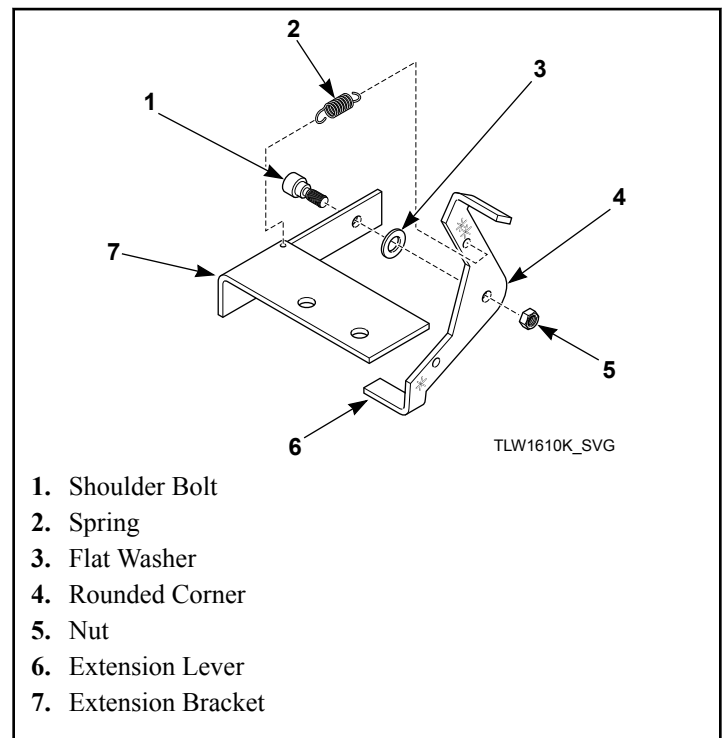

Figure 18
3. Install extension lever with rounded corner facing away from extension bracket using shoulder bolt, flat washer and nut. Refer to *Figure 18*.
4. Install spring to extension bracket with hook facing down. Install other end of spring to extension lever with hook facing left while standing in front of unit. Refer to *Figure 18*.